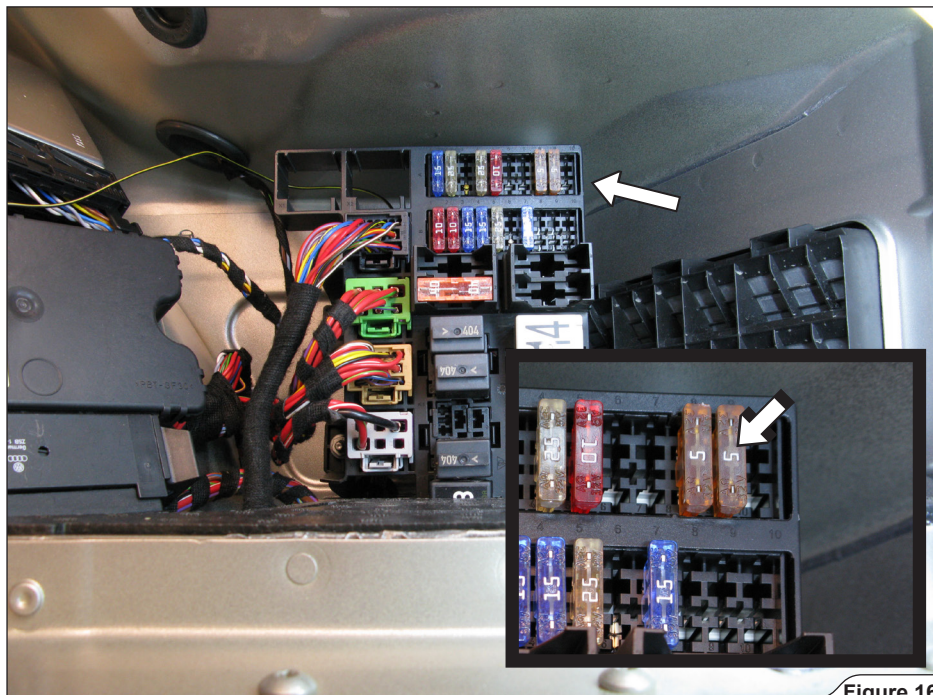

Figure 16
12. Remove the marked 5A fuse from A9 fuse spot (Figure 16).